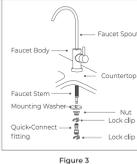

Figure 3
Step 2: Install the Faucet (Figure 3)